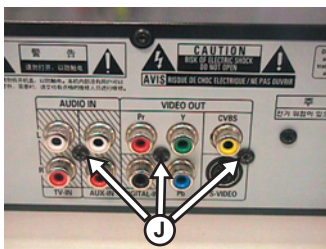
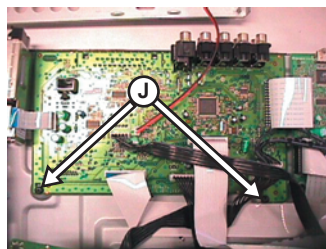

Figure 4-11
Figure 4-12
- 3) Loosen 5 screws (See Figure 4-11 & Figure 4-12) to remove the AV Board.